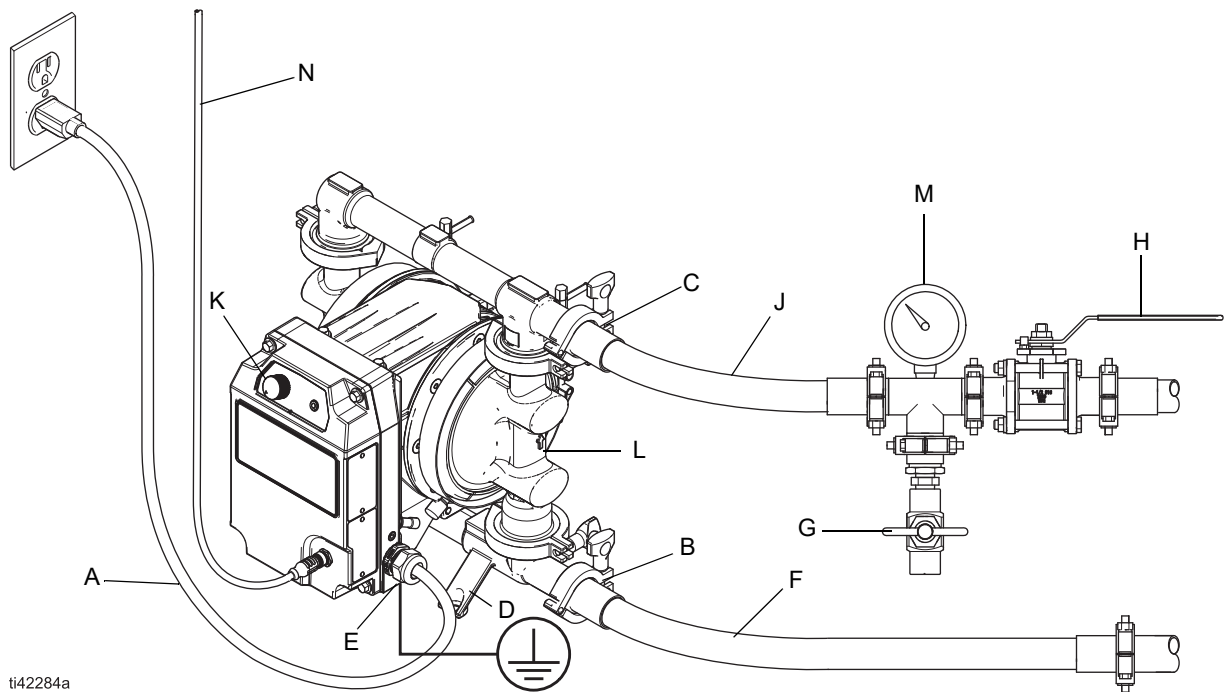

FIG. 4: Typical Installation for Models in Ordinary Locations (cord and plug connection) (h30 (QHC) model shown)
Typical installations are shown in FIG. 4 and FIG. 5. The figures are only guides for selecting and installing system components. Contact your local distributor for assistance in planning a system to suit your needs.
NOTE: For proper priming, ensure the fluid outlet port (C) is mounted higher than the fluid inlet port (B). See FIG. 4 and FIG. 5.
2. Install a fluid drain valve (G) near the fluid outlet. See FIG. 4 and FIG. 5.
Install the following accessories in the order shown in FIG. 4 and FIG. 5, using adapters as needed.